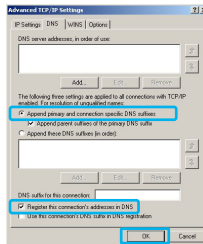

Figure 6
6. Select the **[DNS]** tab and check that the **Append primary and connection specific DNS suffix** is selected. Click **OK**. (Figure 6)